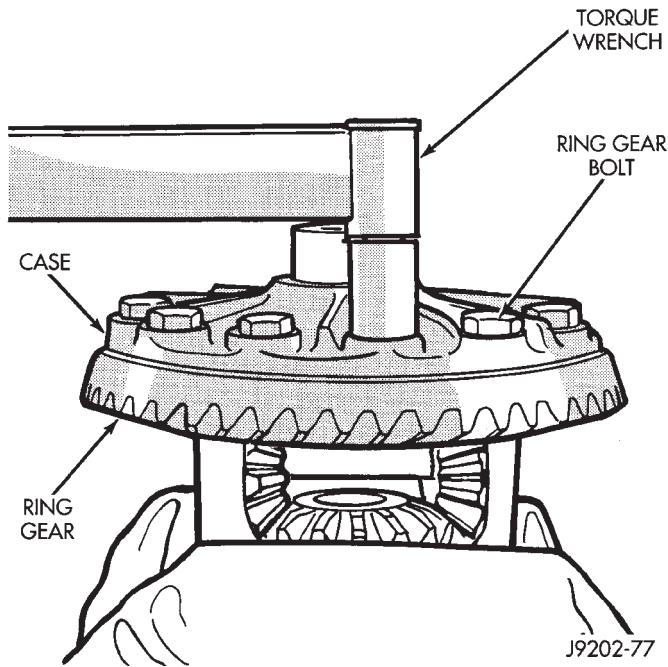

Fig. 25 Ring Gear Bolt Installation
- 102 N·m (75 ft. lbs.) torque (Fig. 25) for 8 1/4 axles.
- 157 N·m (115 ft. lbs.) torque (Fig. 25) for 9 1/4 axles.
(7) Install differential in axle housing and verify gear mesh and contact pattern.